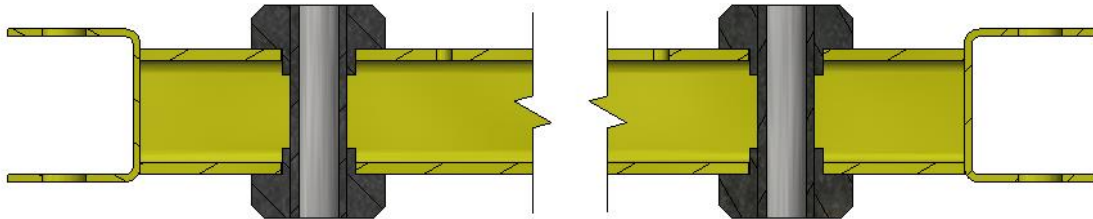

Figure 2: Machine Guard Mounting Tube
- Insert Machine Guard Isolators (p/n 34-262) in the large holes as shown in the cross section view below (Figure 2).